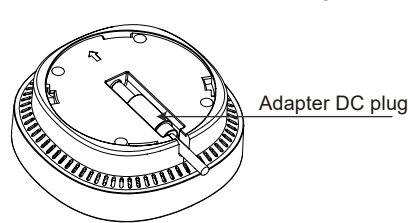

figure 3
2. Unscrew the mounting bracket and insert the adapter DC plug, as shown in Figure 3;